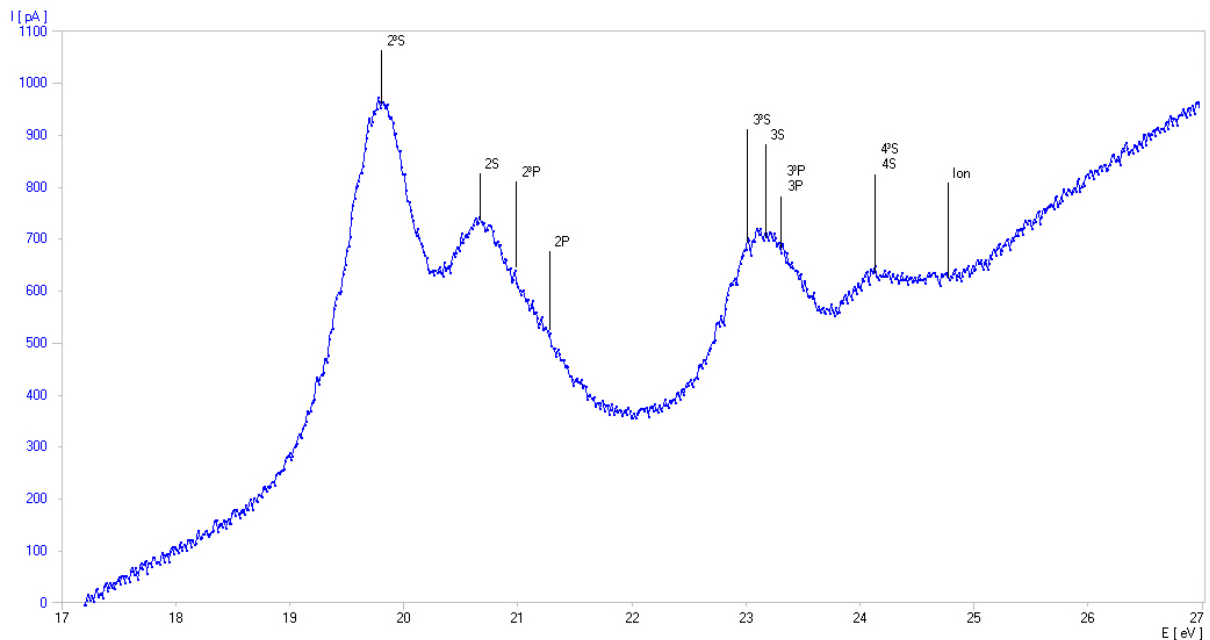

Fig. 3: Determination of critical potentials for helium atoms (curve recorded using 3B NET/log™)
- Set up a graph with the quantity  $E$  on the x-axis and the quantity  $I$  on the y-axis. (See Fig. 3).